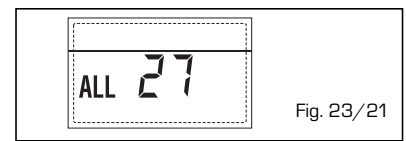

Fig. 23/21
- **ANOMALIA COERENZA INGRESSO (S3) SOLO PER IMPIANTO 7 "ALL 28" (fig. 23/22)**